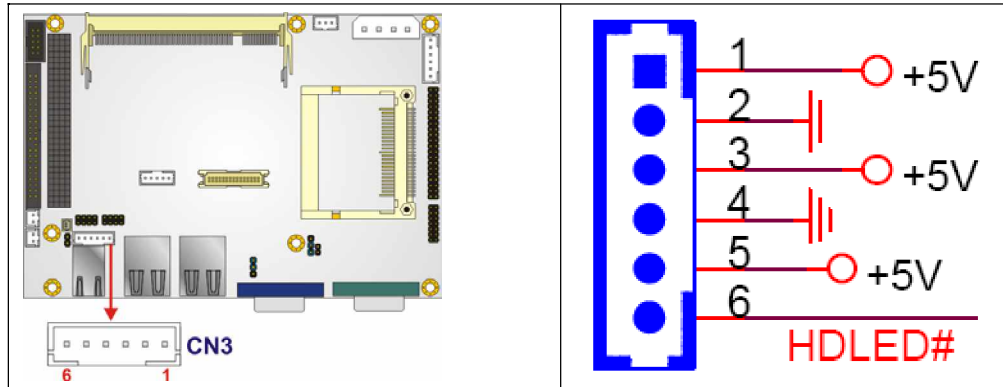

Figure 4-9: LED Connector Locations
- CN Location:** See Figure 4-9